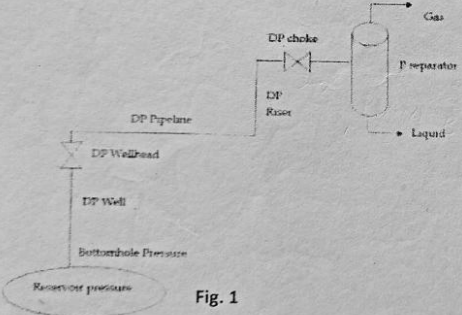

Fig. 1
2. FUPRE Oil & Gas Nigeria limited is to develop a new field offshore Niger Delta for maximum production using the schematic in Fig. 1 below. The production system design was sub-contracted to three indigenous service companies with different proposed production systems as shown in the Table 1 below. With maximum production as the overriding consideration, which of the proposed systems would you implement for the field if you are the production manager?